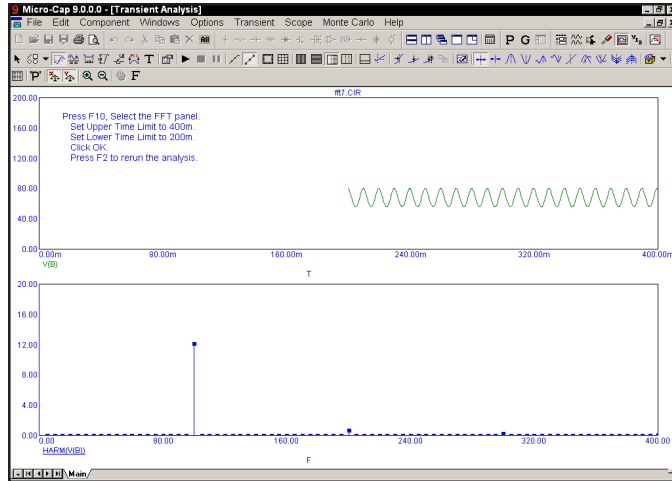

Figure 31-8 The graph without the initial transients
The plot of V(B) includes initial, *non-periodic* transients. The FFT is meant to be applied to *periodic* waveforms and any lack of periodicity shows up as spurious low frequency harmonics. To eliminate the transients and the attendant harmonics, press F10 and click on the FFT panel. Set the Upper Time Limit to 400m. Set the Lower Time Limit to 200m. Click OK and press F2 to rerun the transient analysis. These values specify that all FFT functions are to be windowed from 200ms to 400ms. This means that the portion of the waveform prior to 200ms is to be discarded. The portion from 200ms to 400ms is to be retained. The plot results look like Figure 31-8.